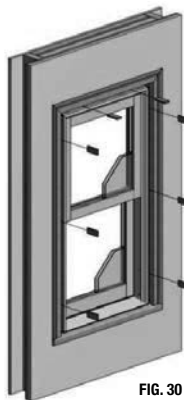

FIG. 30
- B) Appropriately shim the window to obtain a level and square window with uniform frame dimensions. **Note: Place a shim behind each installation screw hole and at the center on each side.** (Fig. 30)